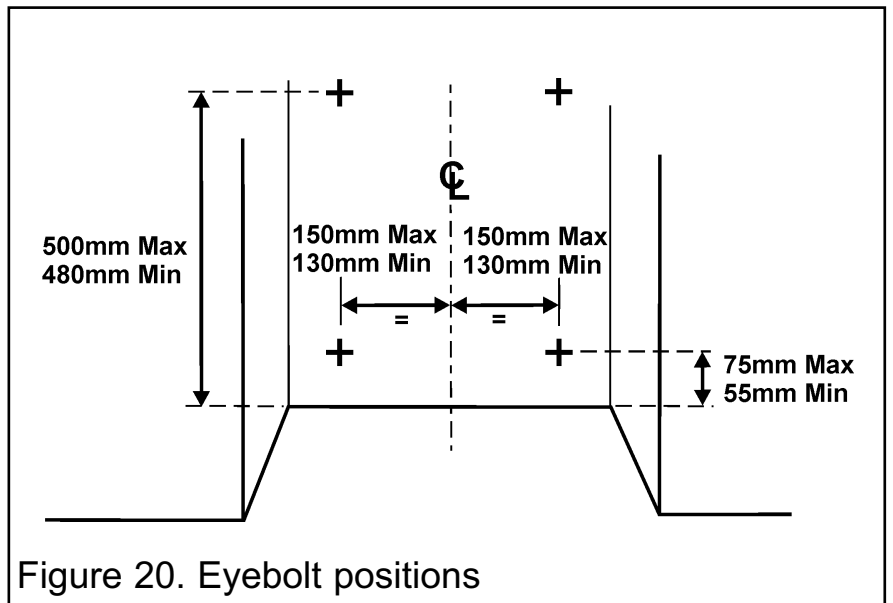

Figure 20. Eyebolt positions
2. Drill four holes in the rear wall of the fireplace for the eyebolt plugs. The holes should be drilled within the range of positions shown in figure 20 using a suitably sized masonry drill for the fibre / wooden plugs supplied. The holes should be equidistant each side of the centre line of the fireplace to ensure that the appliance finishes centrally in the opening when tension is applied to the cables.